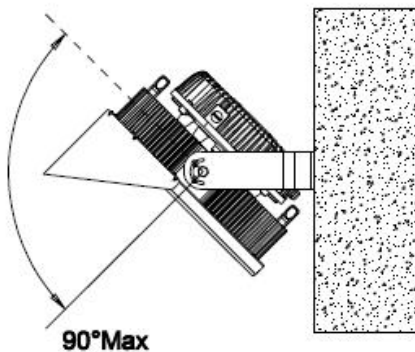
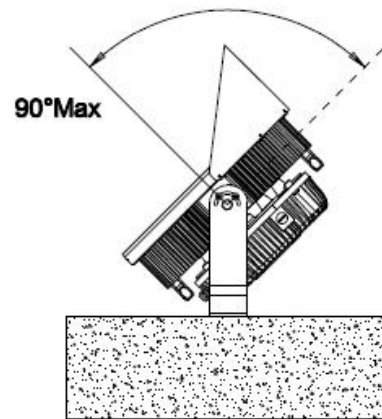

FIG.34
FIG.35
- 2) Align U shaped bracket to the holes on the wall or ground, use expansion screws to fix the bracket. Install fixture on the U bracket, adjust the angle, tighten screws with screwdriver and wrench.(See FIG.34 and FIG.35)